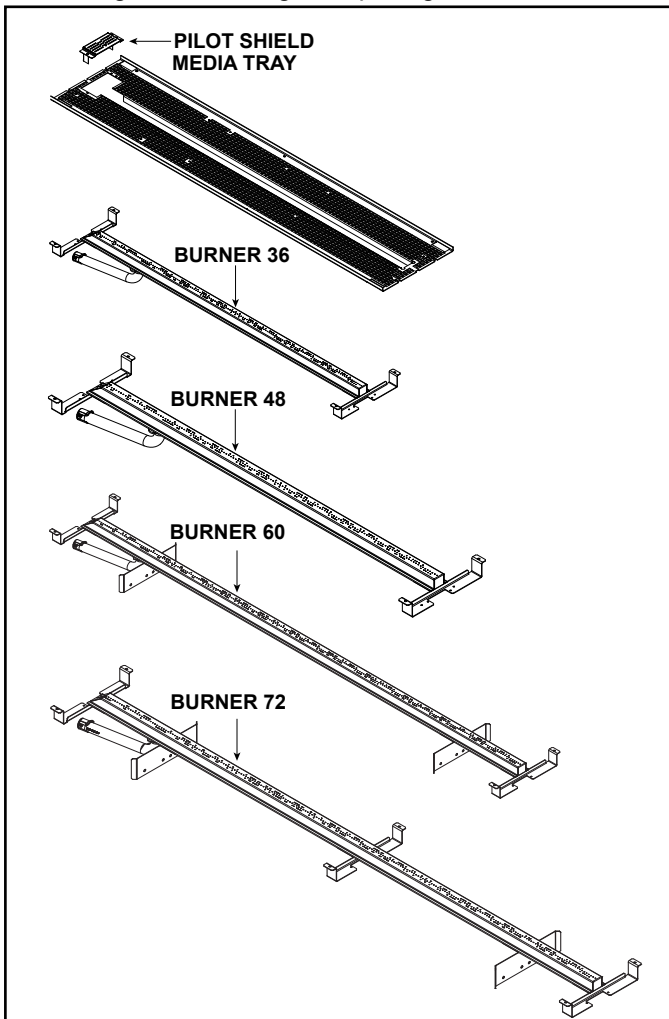

Figure 9.3 Media Tray with Burner and Pilot Shield
7. Remove the media tray. It is attached to the interior firebox bottom with ten screws. See Figure 9.3.
9. Remove the four screws securing the burner to the firebox sides and disengage burner from orifice. Remove burner. See Figure 9.3.